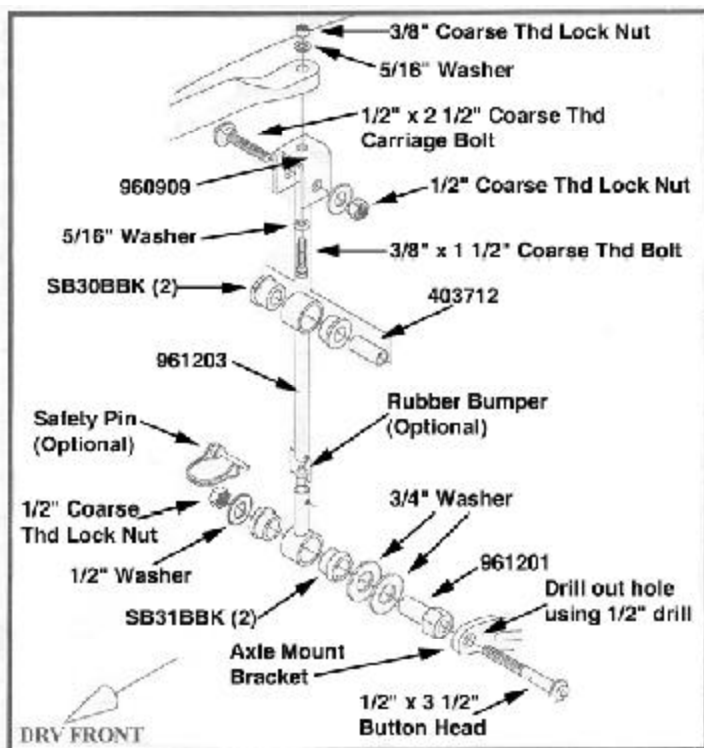

Fig. 3
5. Assemble & install the anti-sway bar end links (961203) as shown in **Fig. 3**.